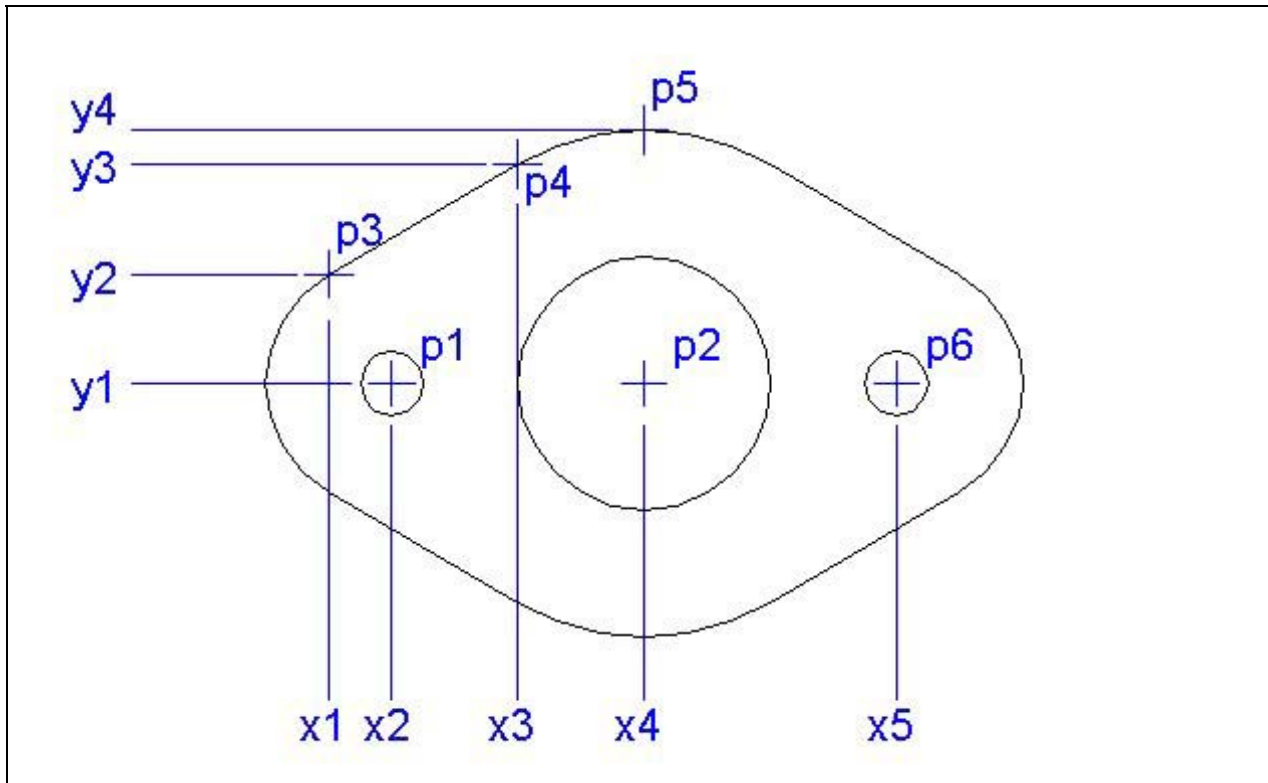

Figure 6.26 – Identifying the Variables for the Gasket Program
In figure 6.26, we have a drawing that shows an X and Y grid for each point we need to draw. In this program, we only need points 1 through 6. To create the points, we have made a grid with the values of x1 through x5 horizontally on the bottom and y1 through y4 vertically on the left. In the program, we will define point P1 as coordinate (x2, y1, z1), point P2 as (x4, y1, z1) and so forth. We have found that points are easily defined using this method and therefore explaining the algebra in the program is simpler.
The vertices or points are declared as double integers (As Double) with an array of zero to two (0 to 2). The vertex P1(0) represents the X coordinate, the P1(1) represents the Y coordinate and P1(2) represents the Z coordinate. Some may think that it is a waste of time to involve the Z-axis in a two dimension drawing, but we will incorporate the Z coordinate for designers that work in all three dimensions. For everyone else, we will just enter zero (0) in the Z coordinate textbox. We will declare points P1 through P6 for the vertices in the drawing in Figure 6.26.